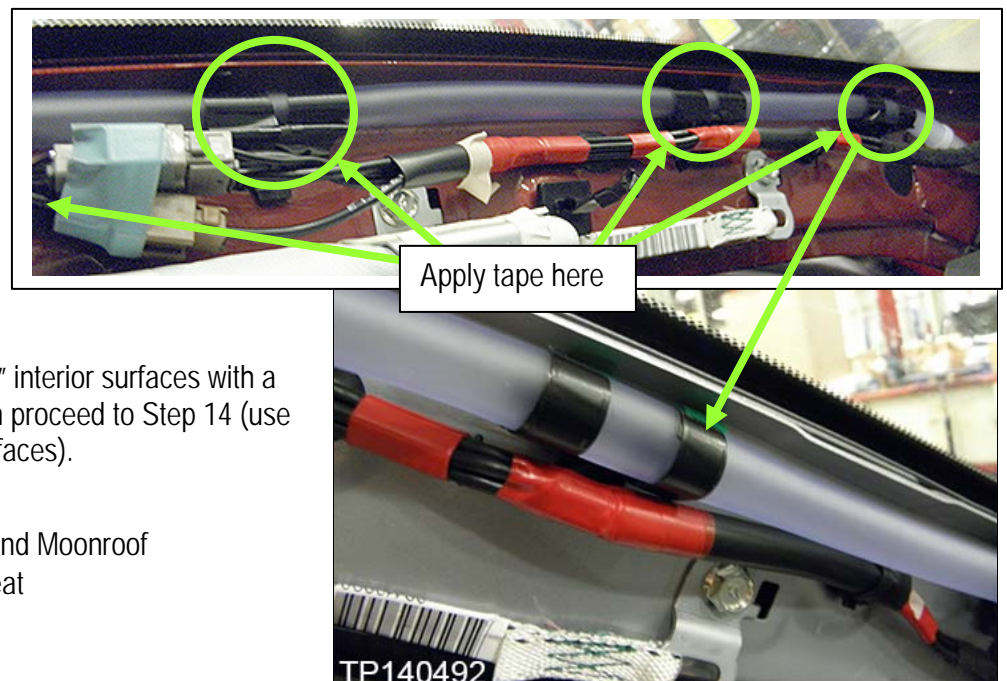

Figure 18
15. Tape the new hoses to the 2 body clips (4 total) on the left and right C-pillars that they were removed from in step 10 (example shown in Figure 18).
11. Tape the new hoses to the 4 body clips (8 total) on the left and right A-pillars that they were removed from in step 3 (Figure 18).